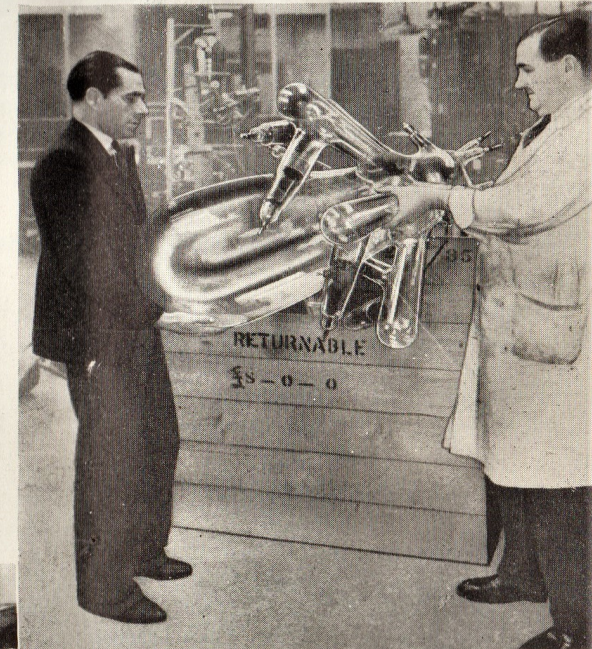

Fig. 6. Completion of the operation in Fig. 5 brings the bulb to its upright position and with the mercury supply now in the cathode pool. (Section 3 (f).)
- (f) See Fig. 6. Now in its correct and upright position, the bulb is ready for fitting into its supporting cradle.